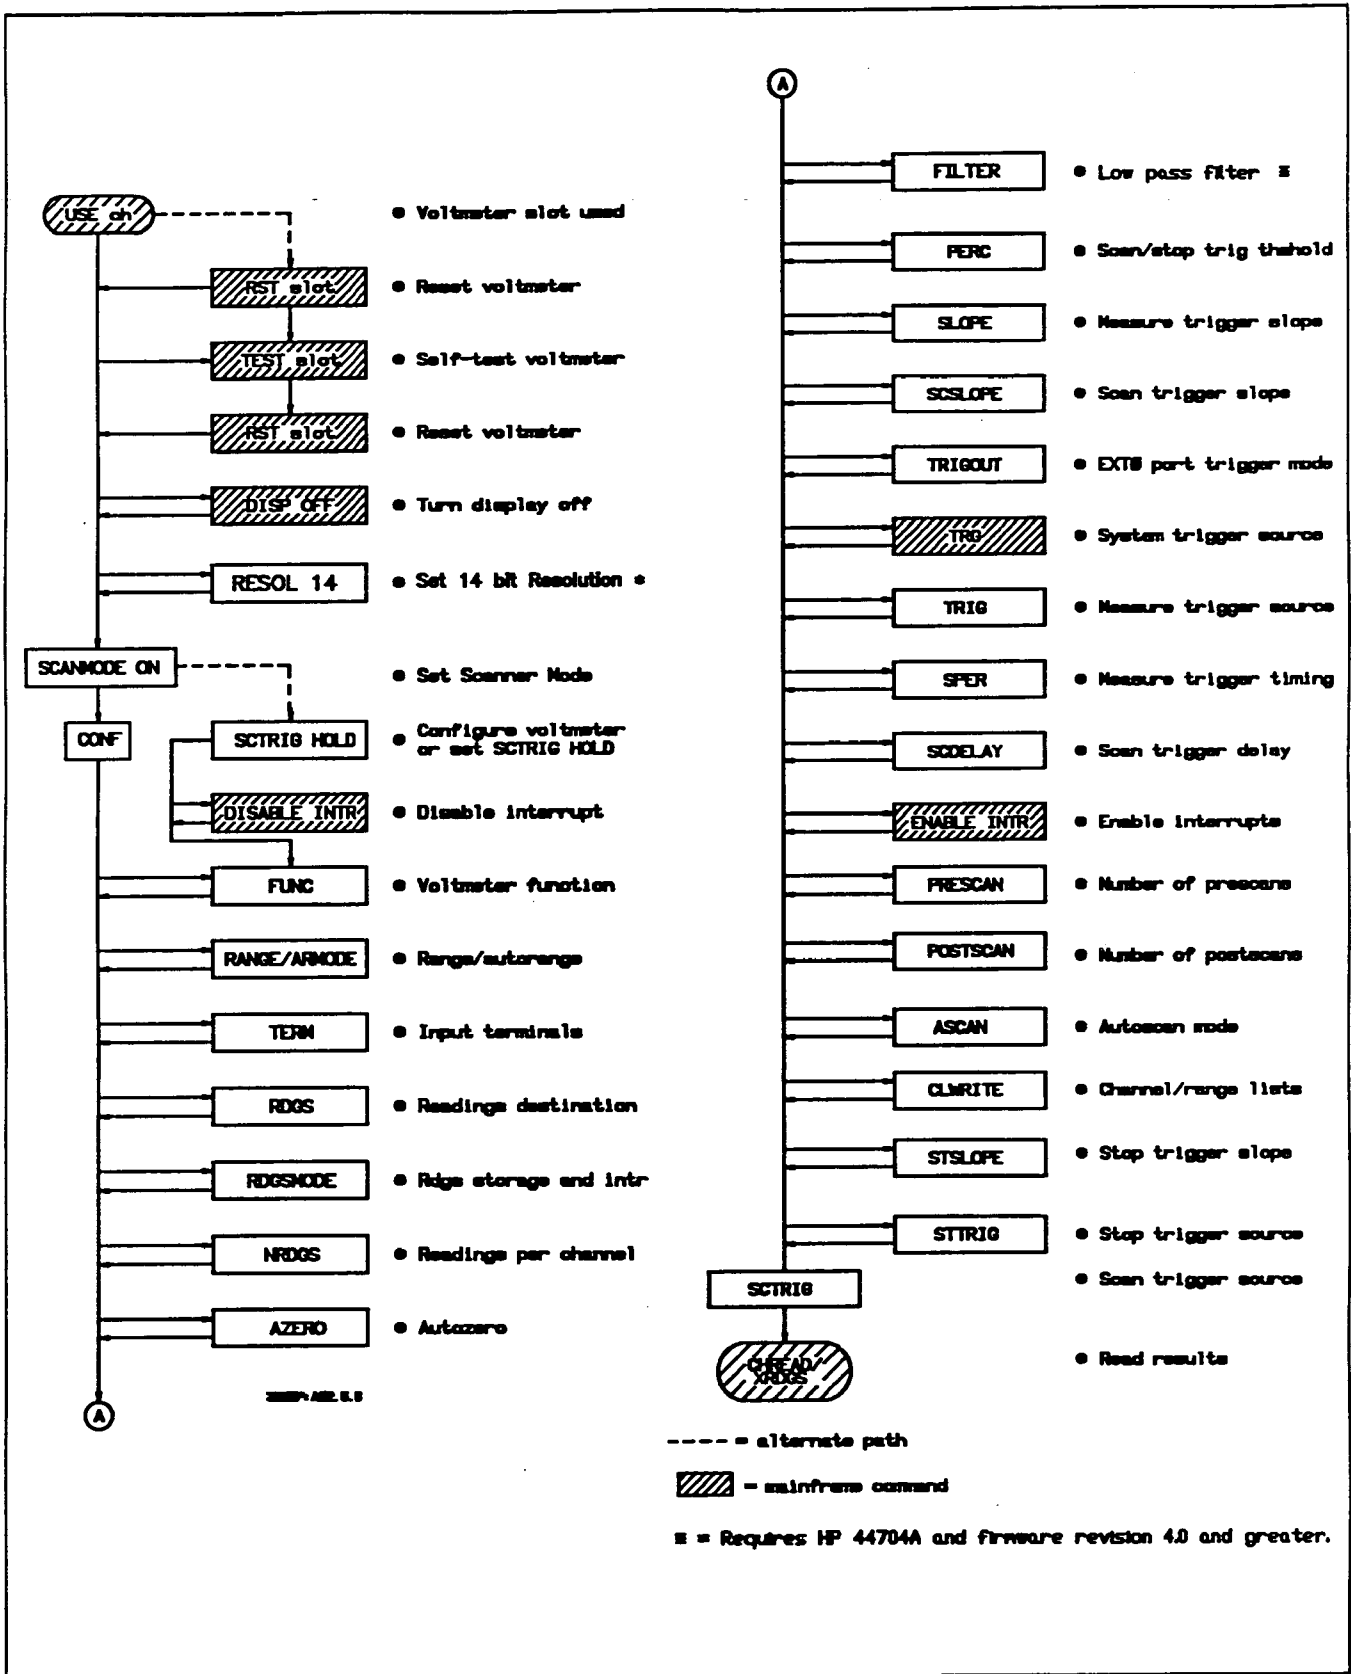

Figure 5-6. Low-Level Commands Programming Sequence
Then, refer to "Selecting Voltmeter Configuration", "Selecting Voltmeter Triggering" and/or to "Selecting Data Transfers/Interrupts" to select the specific parameters required for your measurement. When you have selected required parameters, program the voltmeter using the command sequence shown in Figure 5-6.
*For Scanner Mode ribbon cable operation using CONF, only the USE, SCANMODE ON, CONF, SCTRIG, and CHREAD or XRDGS commands are required to program the voltmeter. The other commands are optional and can be used as needed. Also, commands are not necessarily presented in the order shown in Figure 5-6. When using CONF and low-level commands, always program the voltmeter in the sequence shown in Figure 5-6.*
In this case, refer to “Selecting Voltmeter Configuration” to select the NRDGS parameter; to “Selecting Voltmeter Triggering” to select the SCTRIG parameter; and to “Selecting Data Transfers/Interrupts” to select the RDGSMODE parameter. Then, program the voltmeter using the command sequence in Figure 5-6.